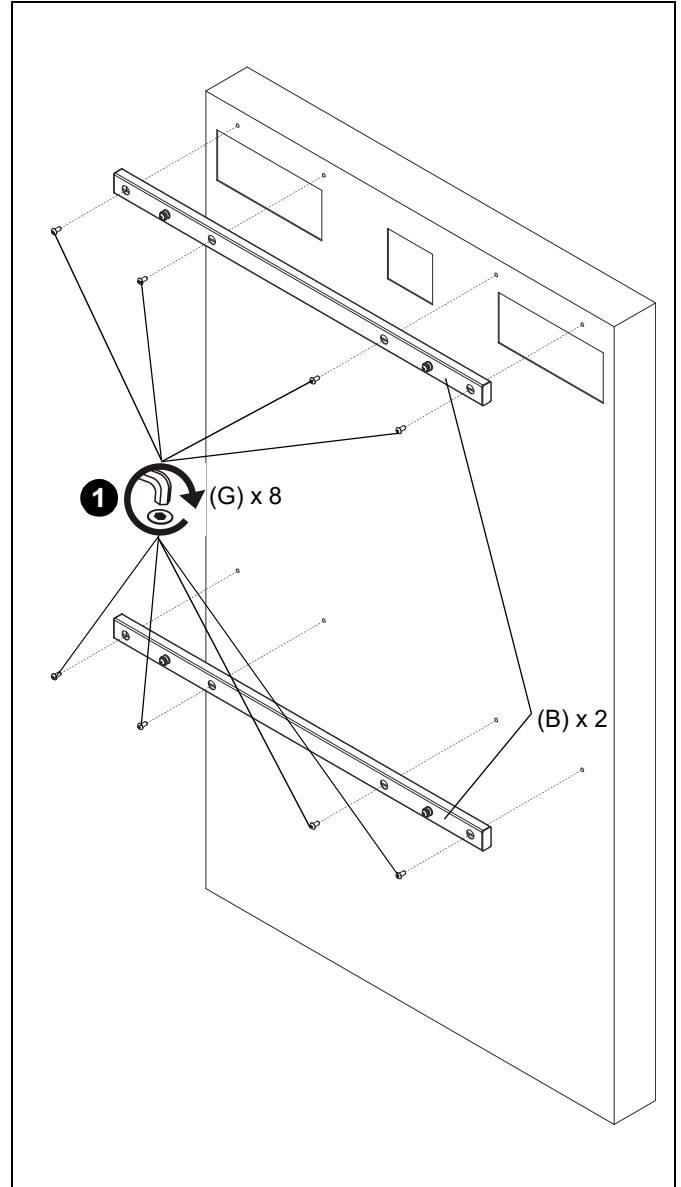

Figure 6
1. Use eight M8x16mm button head screws (G) to attach two cross brackets (B) to back of screen. (See Figure 6)
IMPORTANT ! : If using M6 button head screws (E), also use the shoulder washers (H). (See Figure 6)